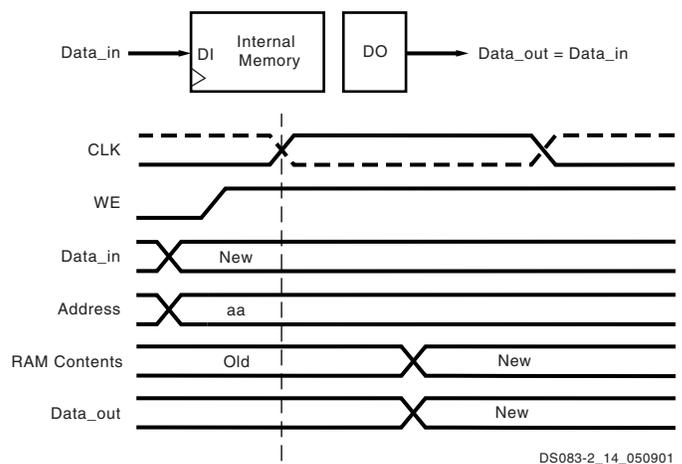

Figure 37: WRITE_FIRST Mode
The WRITE_FIRST option is a transparent mode. The same clock edge that writes the data input (DI) into the memory also transfers DI into the output registers DO, as shown in Figure 37.